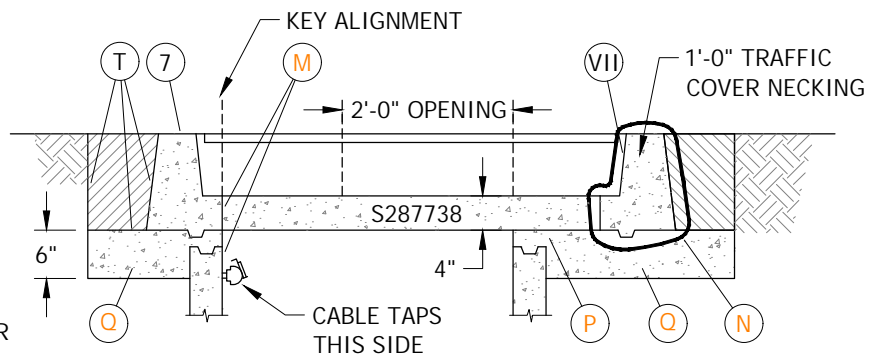

FIGURE 11
- (M) SET THE TRAFFIC COVER USING THE INSIDE LIFTING ANCHORS TO PREVENT ANY PROBLEMS REMOVING THE LIFTING DEVICE. LINE UP THE INSIDE EDGE OF THE TRAFFIC COVER NECKING WITH THE INSIDE EDGE OF THE HANDHOLE INTERMEDIATE SECTION ON THE SAME SIDE THE CABLE TAPS ARE LOCATED. IF HANDHOLE DOES NOT HOUSE CABLE TAPS, ALIGN THE INSIDE EDGE OF THE 3315 HANDHOLE TRAFFIC COVER NECKING WITH THE INSIDE EDGE OF THE INTERMEDIATE HANDHOLE SECTION ON THE STREET SIDE. THIS IS THE KEY ALIGNMENT TO THE ENTIRE INSTALLATION. SEE FIGURE 11.
- (N) IF ANY OF THE TRAFFIC COVER NECKING WILL BE SET IN CONCRETE (ALONG A CURB OR IN A CONCRETE STREET), WRAP 4 OR 6 MIL POLYETHYLENE SHEETING COMPLETELY AROUND THE NECKING AND TIE WITH TAPE. THIS WILL PREVENT EXISTING CONCRETE AND NEW CONCRETE FROM BONDING MAKING IT EASIER TO RAISE COVER IN THE FUTURE. SEE FIGURE 11.
- (P) ALIGN TRAFFIC COVER NECKING TO GRADE USING BRICKS OR WOODEN WEDGES. POUR CONCRETE (4-SACK MIX WITH 3/8 INCH PEA GRAVEL OR AS REQUIRED BY CITY OR COUNTY CODES) INSIDE OF NECKING AND INTO THE OVERLAPPING AREA OF SECTIONS. SMOOTH CONCRETE WITH GROUT AND TROWEL. SEE FIGURE 11.
- (Q) ON THE OUTSIDE OF THE NECKING, POUR AND PACK CONCRETE UNDERNEATH WITH A SHOVEL UP TO THE BOTTOM OF THE NECKING AND UP TO FINAL GRADE LEVEL AT THE CURB. SMOOTH OUT ANY EXCESS CONCRETE COMING THROUGH ON INSIDE OF HANDHOLE. TRIM AWAY EXCESS PLASTIC SHEETING. SEE FIGURE 11.